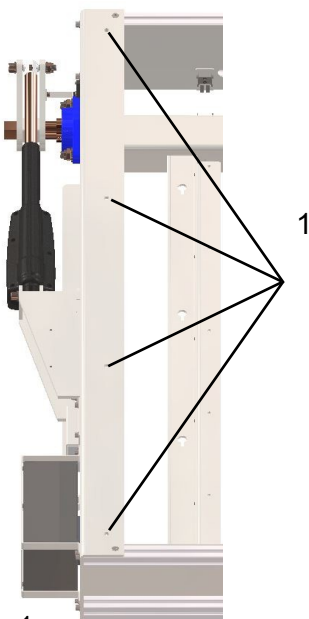

Fig. 1
2. On the top of the system, you will find 4 holes each that are used for mounting on the ceiling (Fig. 1).